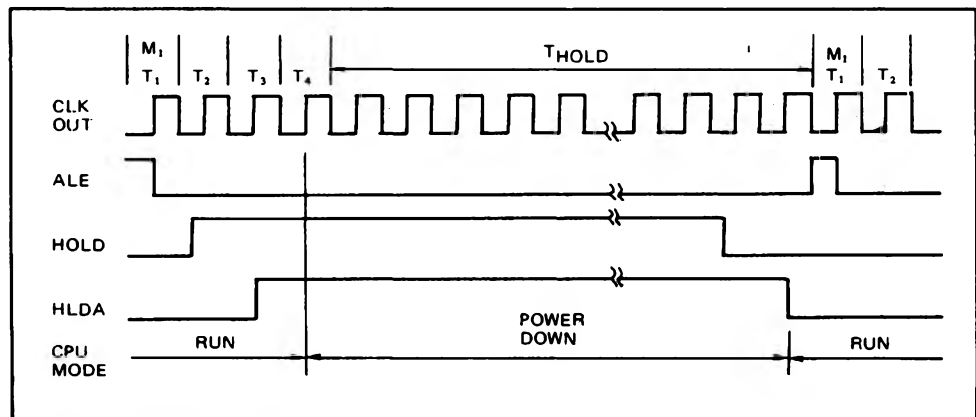

Figure 8. Started and Released by HOLD
(2) Start by means of HOLD pin (See Figure 8.)